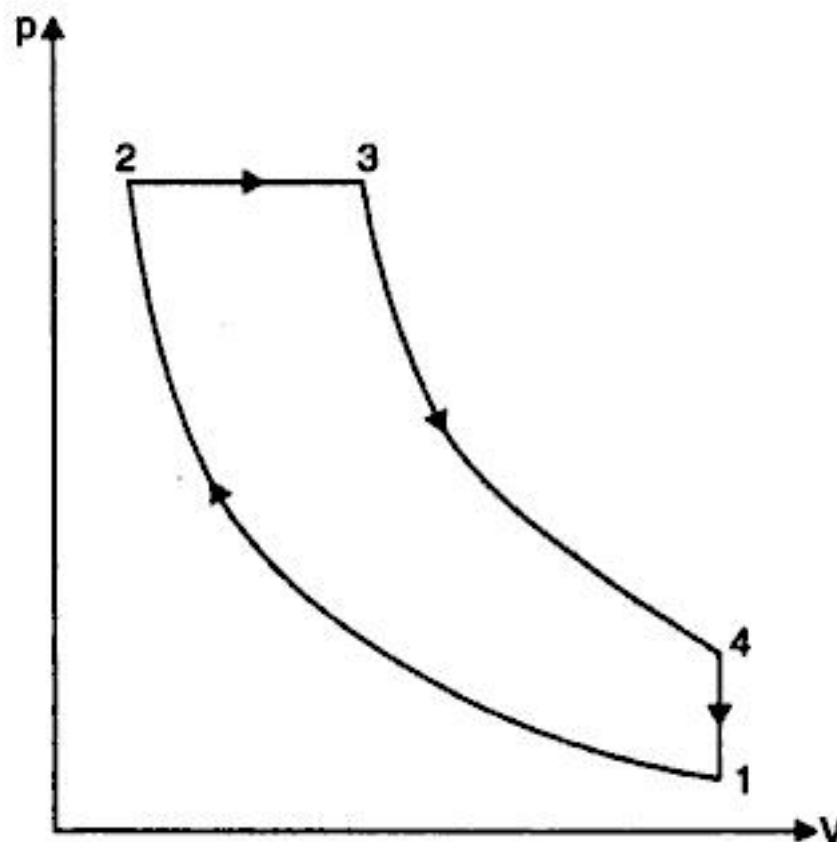

Fig. 3.18. Diesel cycle.
**Solution.** Refer Fig. 3.18. Given :  $\frac{V_1}{V_2} = 15.3$  ;  $\frac{V_4}{V_3} = 7.5$
The cycle is shown in the Fig. 3.18, the subscripts denote the respective points in the cycle.